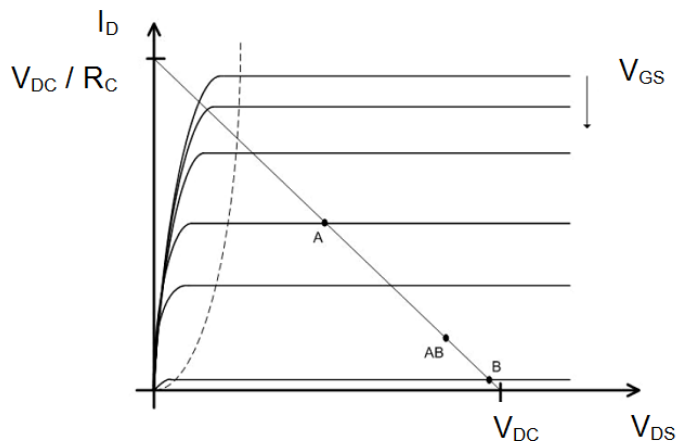

Fig. 8: Output characteristic (schematic)
There are several different modes (Fig. 8):
- C-mode (not shown in Fig. 8):